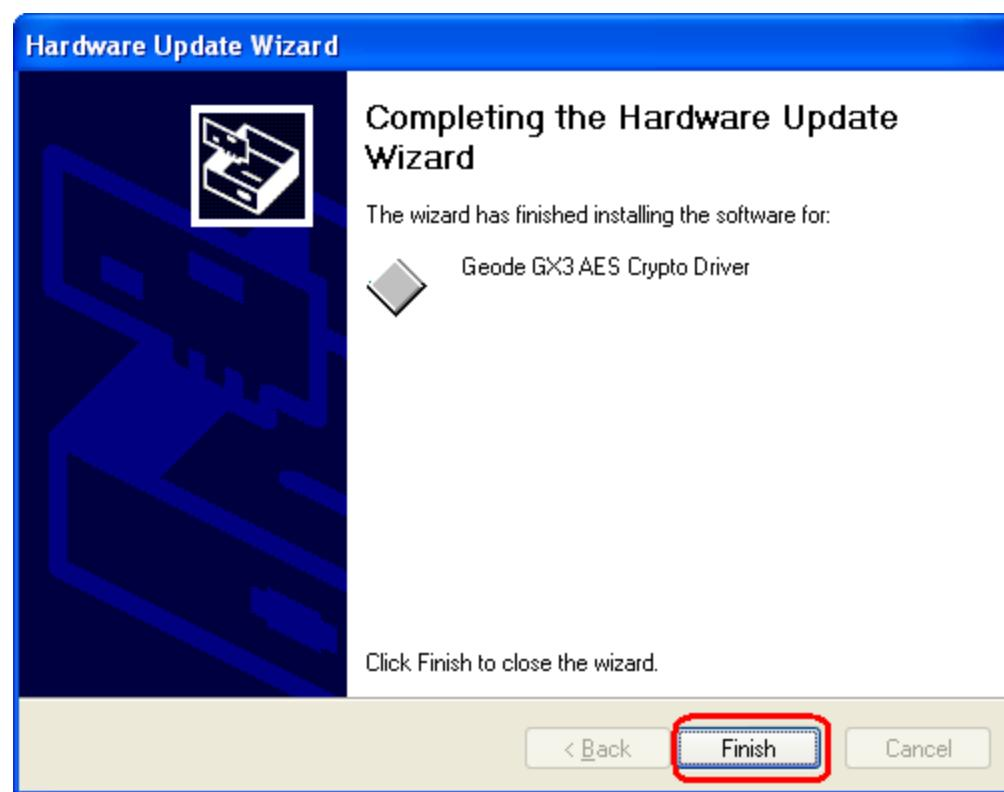

Figure 7-40: Entertainment Encryption/Decryption Controller Driver Installation Complete
Step 71: When the driver is installed, the screen in **Figure 7-40** appears.
Step 72: Click the Finish tab in to complete the **Figure 7-40** installation.